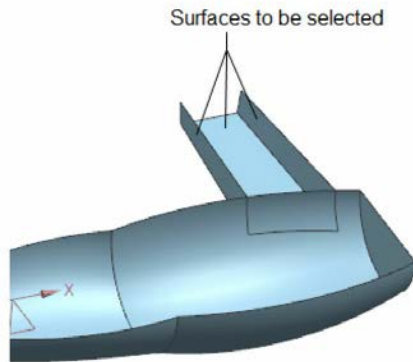
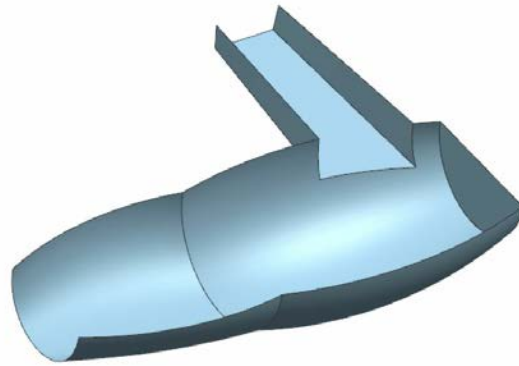

Figure 11-99 Surfaces to be selected
Figure 11-100 Resultant trimmed surface
- Trim the unwanted portion of the through curve surface that is used to create the handle, refer to Figures 11-99 and 11-100.
5. Select the surfaces shown in Figure 11-99 as the trimming objects. Next, choose the **OK** button from the **Trim Sheet** dialog box. The rotated view of the resultant surface model is created, as shown in Figure 11-100.